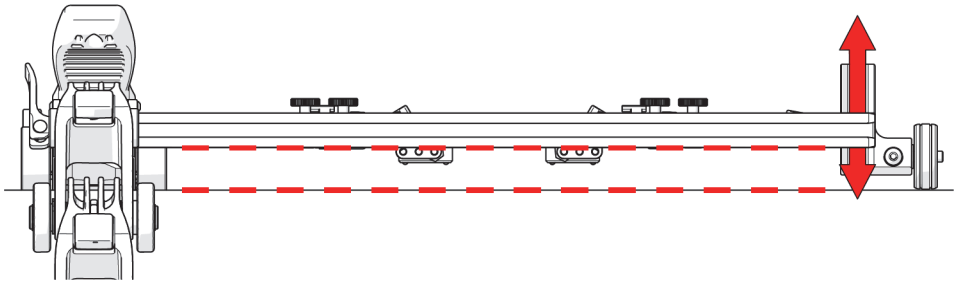

Figure 3-12 Adjust stabilizer wheel
11. Adjust the stabilizer wheel to align the frame bar parallel with the scan surface (see Figure 3-12 on page 87 and “Stabilizer Wheel” on page 29).